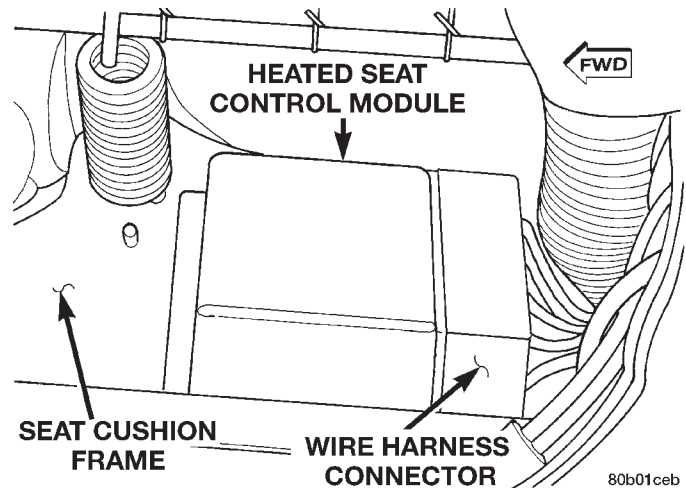

Fig. 2 Heated Seat Control Module Remove/Install - Right Side Shown
(1) Move the power seat adjuster to its full up and full forward stop positions.
(2) Disconnect and isolate the battery negative cable.
(3) Remove the three screws that secure the seat side shield to the seat cushion frame.
(4) Pull the seat side shield away from the seat far enough to access and unplug the wire harness connectors from the power seat and power lumbar switches.
(5) Remove the seat side shield from the seat.
(6) Look under the seat to locate the heated seat control module and its wire harness connector. These components are positioned under the seat cushion spring near the center of the outboard seat cushion frame (Fig. 2). The wire harness connector has an integral clip that secures it to the seat cushion frame. The heated seat control module is retained in the wire harness connector by the tension of its terminals in the connector cavities.